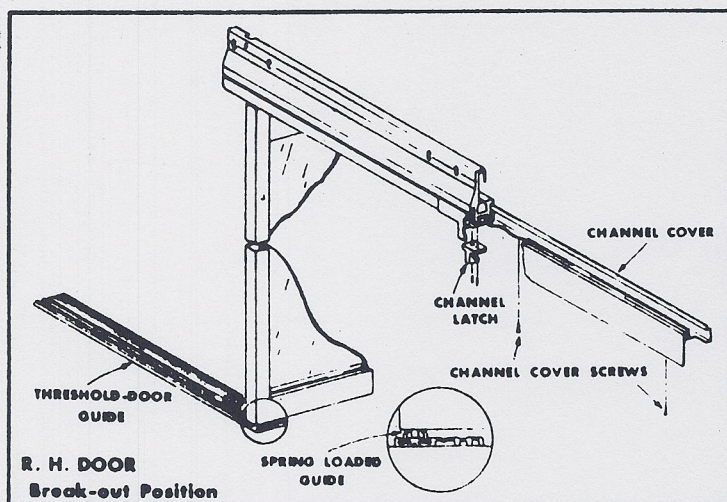

FIGURE 15
1. Break out door and remove channel latch and channel cover screws. See Fig. 15.
- a. Break-Outdoor and remove channel latch and channel cover screws. See Figure 15.